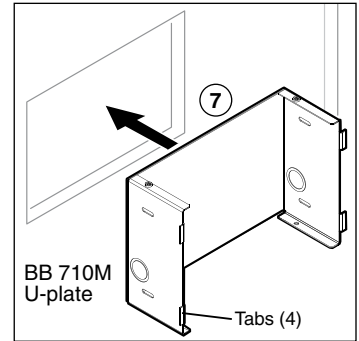

Figure 1.
7. If required, secure a conduit to the U-plate and insert the U-plate into the hole (see figure 1).